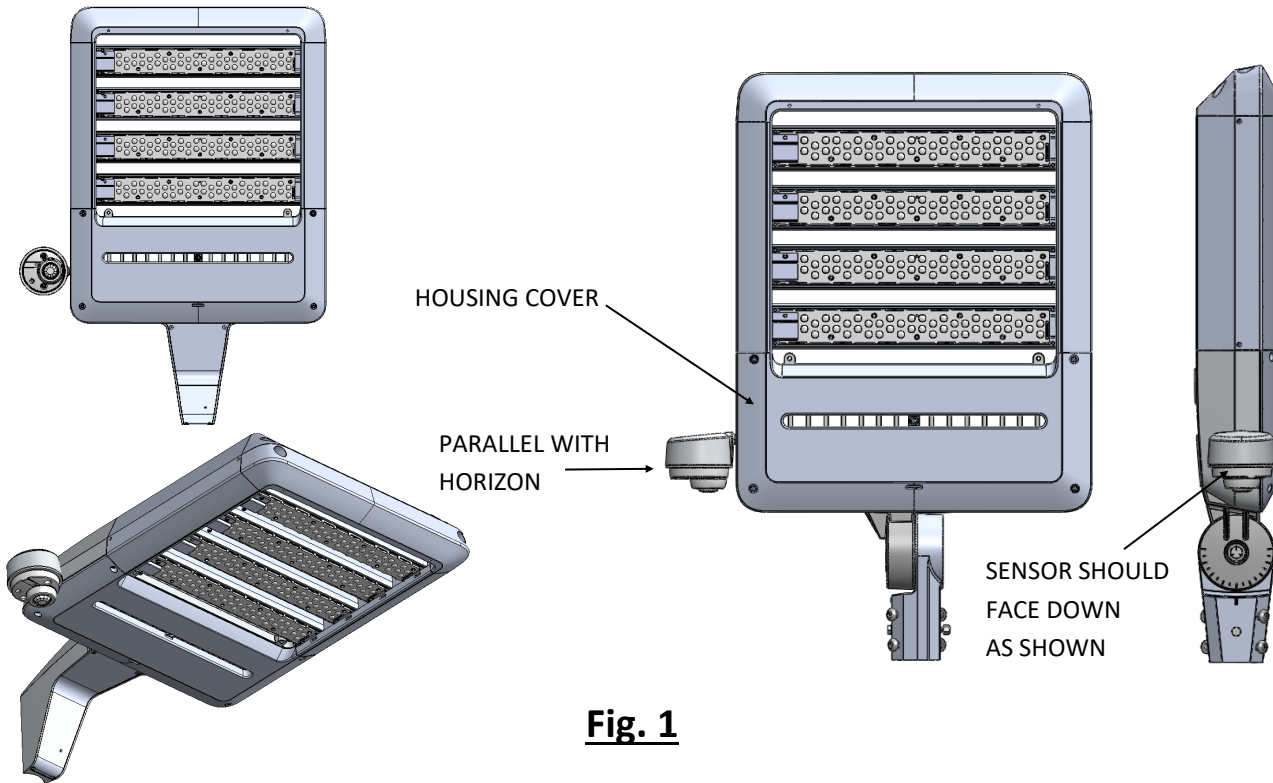

Fig. 1
1. Open housing cover by loosening (5) 10-24 screws located on bottom of door (screws are captive and will remain on door). See Fig 1.